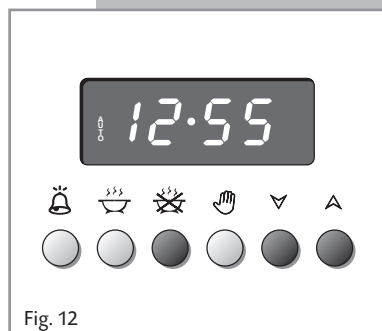

Fig. 12
2. Set the end of the cooking time by pressing the  button (the cooking time already added to the clock time will appear), and the  button (fig. 12); if you pass the desired time you may get back by pushing the  button.